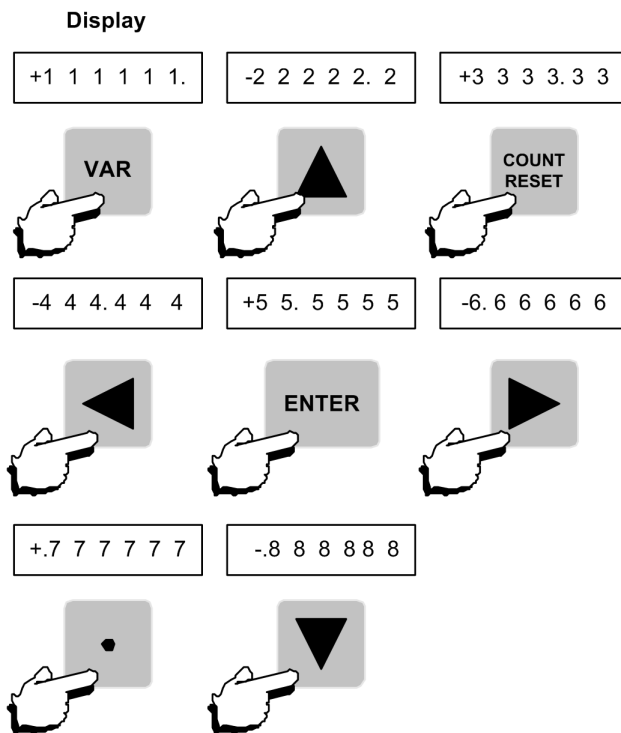

Figure 16: Keypad Test Showing the Display After Each Key Press
3.	Press each key starting with the VAR key from left to right and the display will appear as shown in Figure 16. Note the position of the decimal point after each key press.